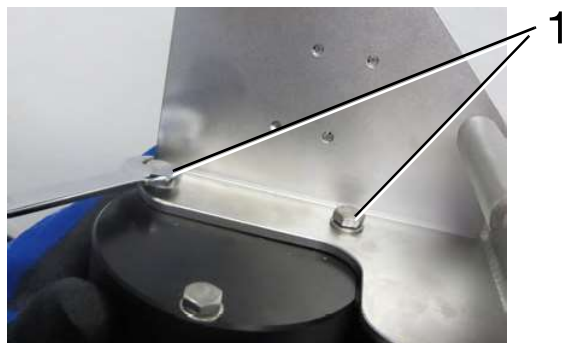

Fig. 7-18 1 Screws
- Unscrew the screws (1, Fig. 7-18) using the open-ended spanner.